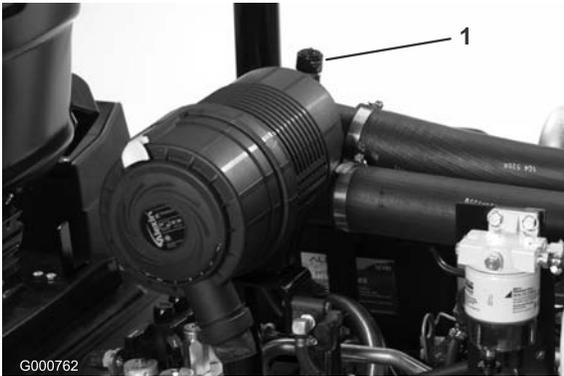

Figure 51
Service the air cleaner filter only when the service indicator (Figure 51) requires it. Changing the air filter before it is necessary only increases the chance of dirt entering the engine when the filter is removed.
6. Reset the indicator (Figure 51) if it shows red.